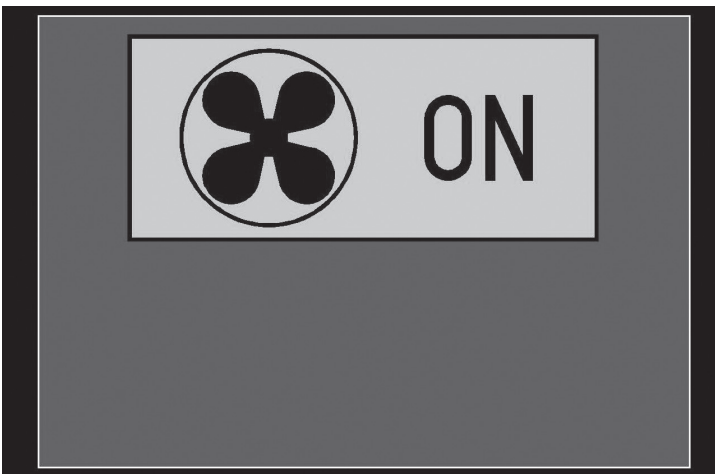

Figure 28
- Fan On – Main fan is on and heated air is flowing from the air outlet. See Figure 28.